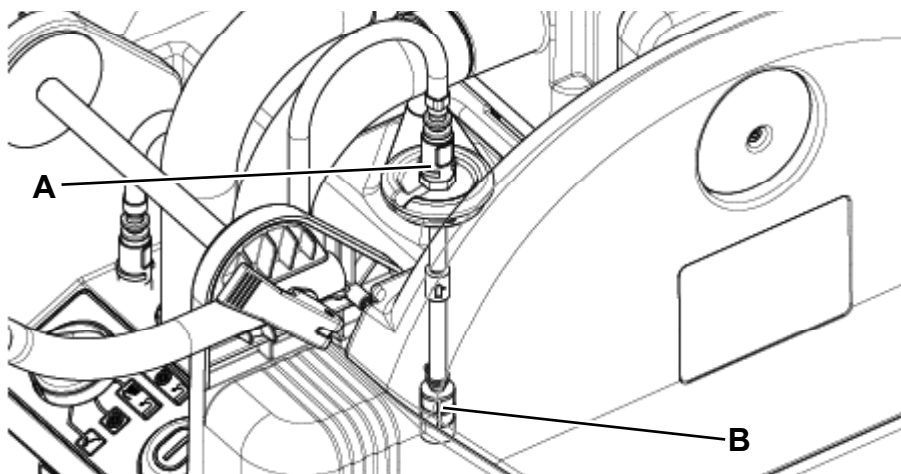

Figure 5
2. Make sure that the power supply cable (10) is disconnected from the electrical mains.
3. Remove the solution hose plug (A, Fig. 5), carefully remove the hose from the tank and clean the filter (B) with water.